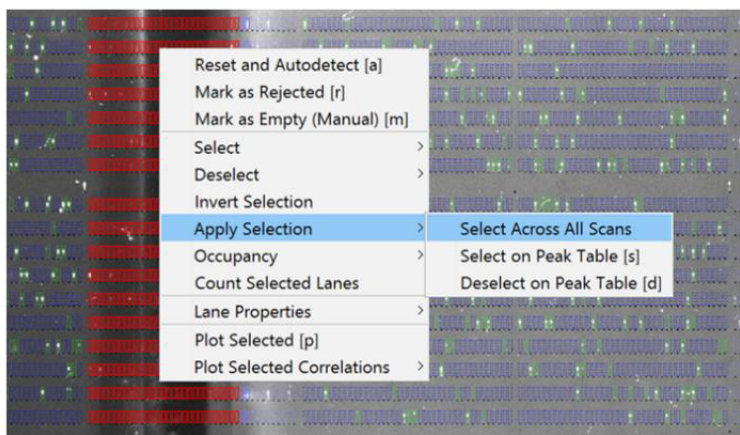

Figure 2-14: Rejecting unwanted regions.
3. To reject the selected lanes across all scans, in the right-click menu select **Apply Selection > Select Across all Scans** as shown in Figure 2-14. Then click on the other scans and mark the selected lanes in those scans as rejected (right-click and select **Mark as Rejected** or **[r]**).